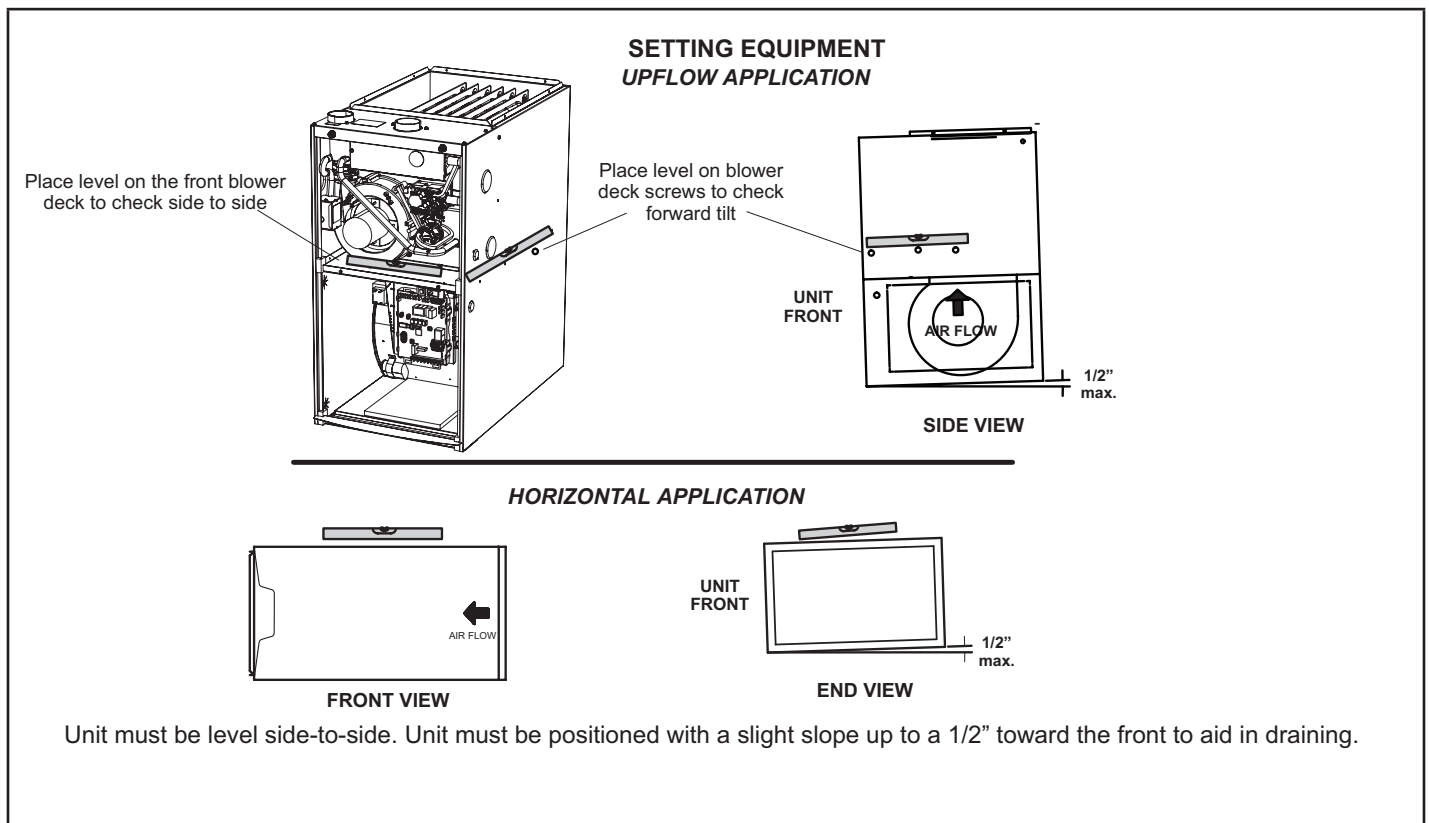
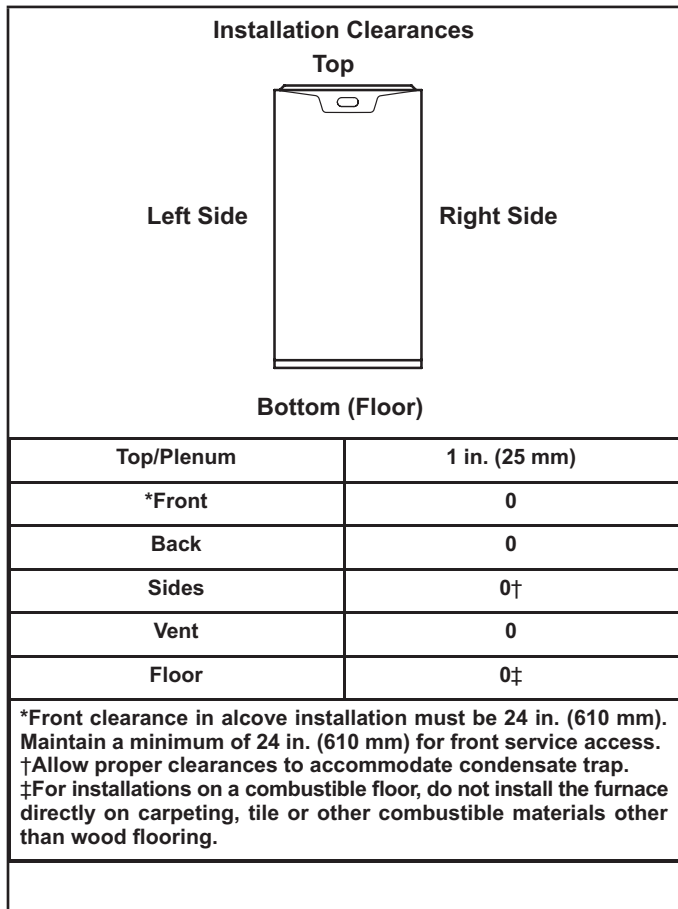
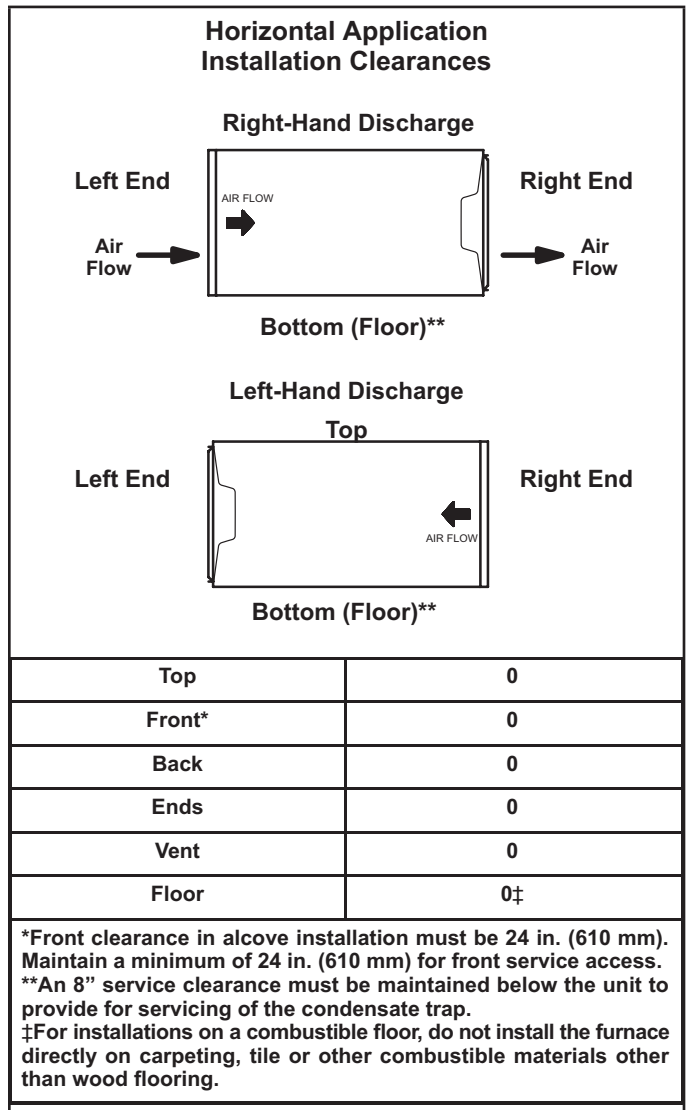

FIGURE 5
FIGURE 10
FIGURE 11
This furnace is designed for installation clearances to combustiblenaterial as listed on the unit nameplate and in the tables in FIGURE 10 and FIGURE 11. Accessibility and service clearances must take precedence over fire protection clearances.
The SLP99UHV gas furnace can be installed as shipped in the upflow position. Refer to figure 10 for clearances. Select a location that allows for the required clearances that are listed on the unit nameplate. Also consider gas supply connections, electrical supply, vent connection, condensate trap and drain connections, and installation and service clearances [24 inches (610 mm) at unit front]. ***The unit must be level from side to side. Unit must be positioned with a slight slope up to 1/2" toward the front to aid in draining. See FIGURE 5.***
Allow for clearances to combustible materials as indicated on the unit nameplate. Minimum clearances for closet or alcove installations are shown in FIGURE 10 and FIGURE 11.
The SLP99UHV furnace can be installed in horizontal applications with either right- or left-hand air discharge. Refer to FIGURE 11 for clearances in horizontal applications
- 1 - Select location for unit keeping in mind service and other necessary clearances. See FIGURE 11.